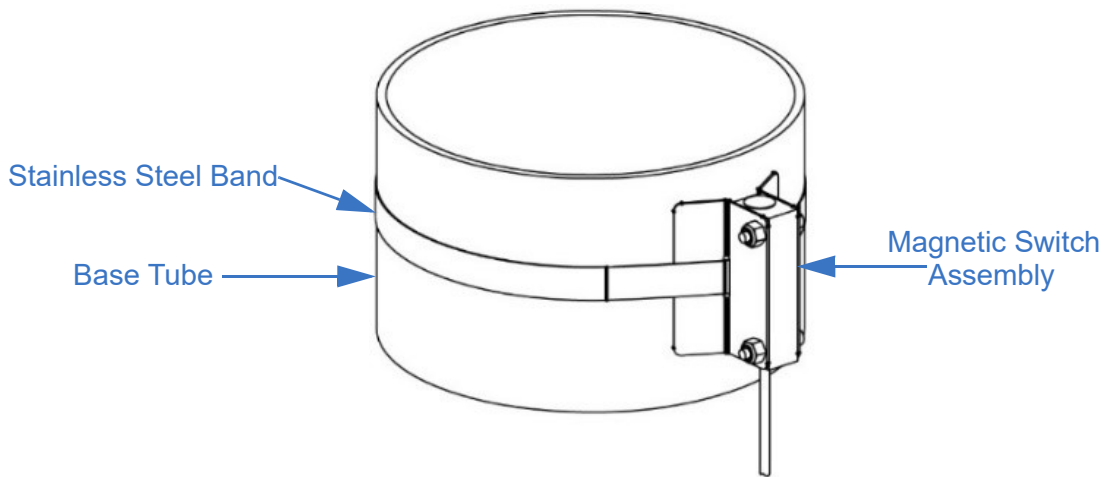

Figure 5-31 Magnetic Switch Assembly Attached to Base Tube
5. Attach the magnetic switch assembly loosely around the base tube approximately 6 to 20 inches (15 to 51 cm) above the base plate (Figure 5-31). The magnetic switch assembly can be located anywhere around the perimeter of the base tube.